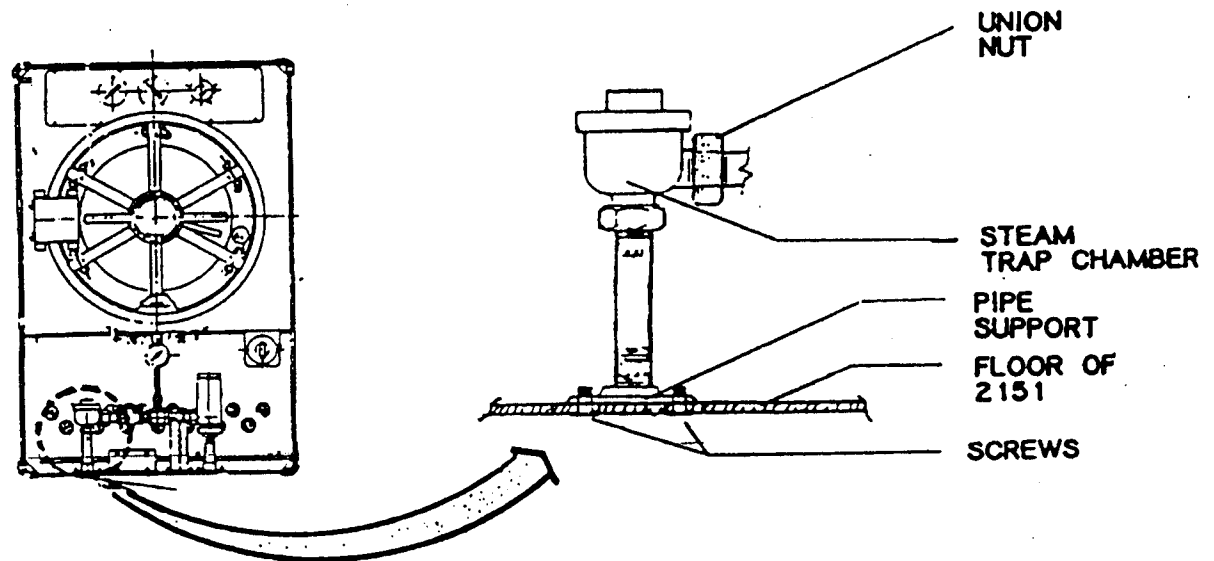

Figure 2-1. Steam Trap Removal.
b. Steam Trap Removal: Loosen the union nut (figure 2-1) from the steam trap until it disengages from the threads on the steam trap. Remove the two 1/4-20 flat head screws that fasten the pipe support to the floor of the 2151 and lift out the steam trap.